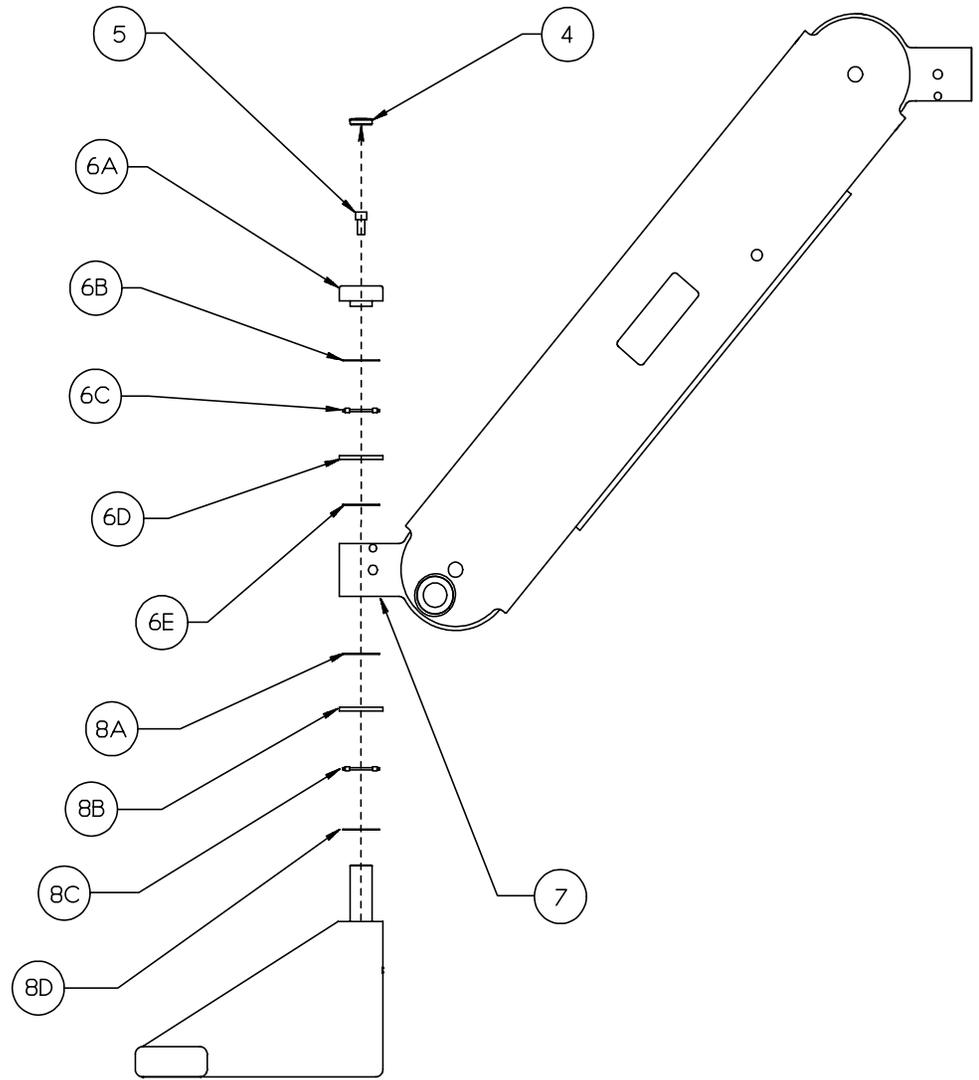

Figure 9
4. Using a blade screw driver or similar tool, remove the molded hole plug from the shaft cap, located on the top end of the A-Arm mount. See Figure 9 (next page).
5. Remove the 1-inch long hex screw from the top end of the A-Arm mount. (This hex screw installs down through the A-Arm Support's shaft to secure the A-Arm mount to the A-Arm Support.) See Figure 9 (next page).
- E. bottom bearing thrust washer. See Figure 9 (next page).
7. Lift up the A-Arm. slide its mount up over the support's shaft and remove the A-Arm from the support. See Figure 9 (next page).
- D. bottom bearing thrust washer. See Figure 9 (next page).
2. Place the section of cable extending immediately out from the front end of the Cable Cover into the track on the underside of the A-Arm, as shown in Figure 9 previously.